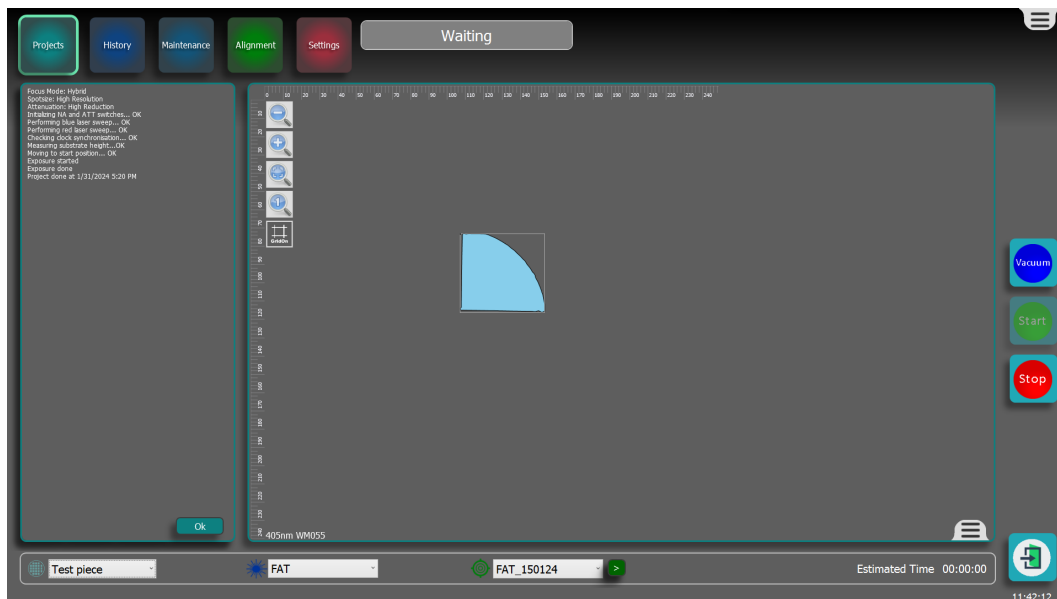

Figure 3-30 View the scanned polygon shape
11. To view the scanned substrate, select Projects in the top bar, see in Figure 3-30.